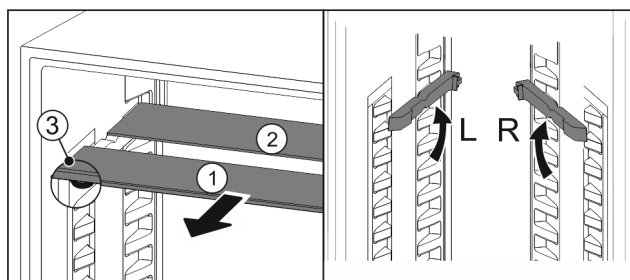

Fig. 130
- Pull the glass panels out *Fig. 130 (1)* from the front, one at a time.
- The glass panel *Fig. 130 (1)* and trim strip are at the front.
- The stops *Fig. 130 (3)* point down.